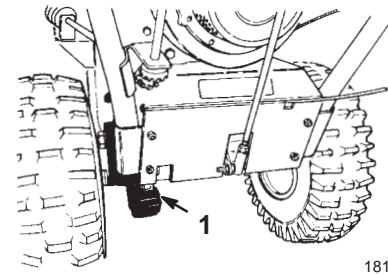

Figure 33
2. Lightly lubricate the drive chain with a chain lubricant (Fig. 33).